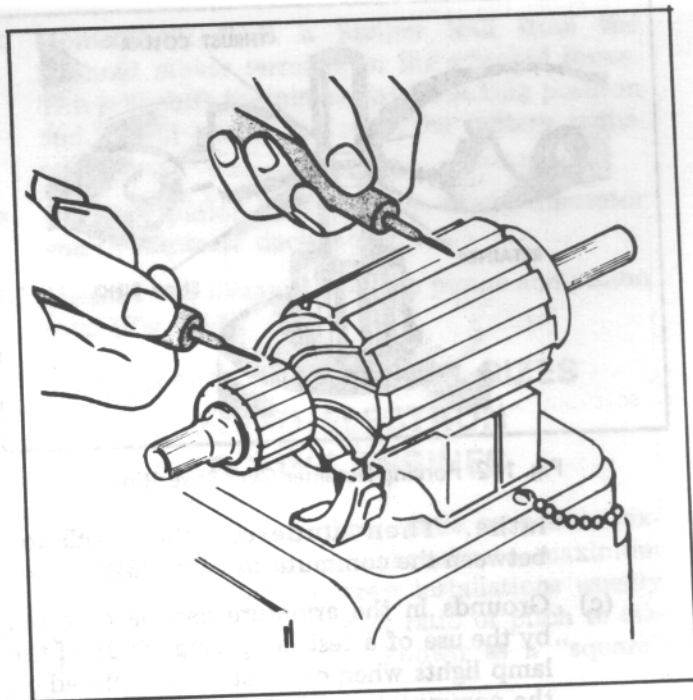

Fig. 140. Checking the Armature for Grounds.
- (c) Grounds in the armature can be detected by the use of a test lamp (Fig. 140). If the lamp lights when one test prod is placed on the commutator and the other test prod on the armature core or shaft, the armature is grounded. If the commutator is worn, dirty, out of round, or has high insulation, the commutator should be turned down and undercut as previously described.